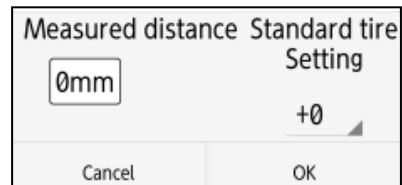

Figure 4-46 Distance correction screen
- (1) Tap Sensor setting: [Distance correction] menu. Then the distance correction screen (Figure 4-46) appears and shows the current setting.
- (2) Tap the current setting (+0 in Figure 4-46), then the list of available correction values appears.
- (3) Scroll the list and tap the desired correction value.
- (4) Confirm the selected setting is shown as the current setting in the screen.
- (5) Tap [OK] to return to the parameter setup screen. To cancel the setting change, tap [Cancel], then the screen returns to the parameter setup screen without setting change.
- (6) Tap [Return to the main window] to return to the main screen.